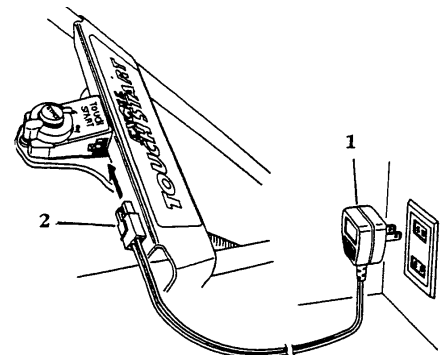

FIG. 12
(FIG. 12) Plug the battery charger (1) into a household electrical outlet (120V Only) and connect the electrical coupling (2) to the coupling on the stop switch body.